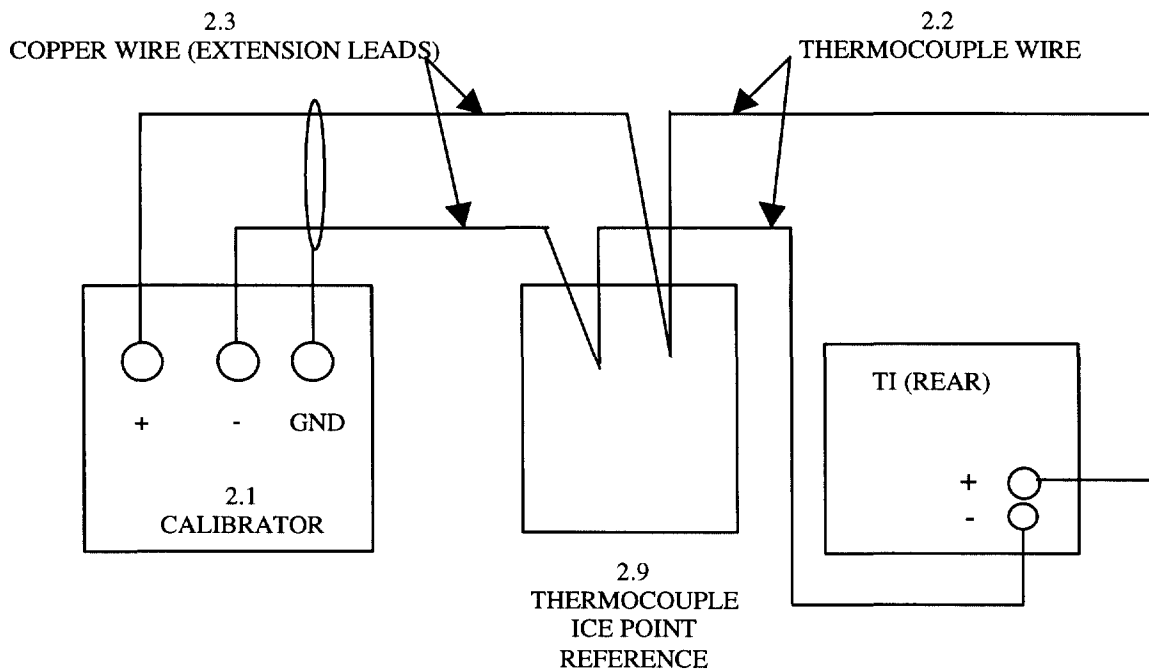

Figure 1. Indicator Temperature Response Test Configuration
4.1.1 Connect the equipment as shown in Figure 1, using the appropriate thermocouple wires (item 2.2) and copper leads (item 2.3). Refer to Appendix A when selecting the thermocouple wire.
Care must be exercised when connecting the thermocouple wires to the TI to ensure correct TI response and polarity. For voltage settings generating minus (-) millivolts from the calibrator (item 2.1), reverse the thermocouple wire connections at the TI output terminals with respect to Figure 1.